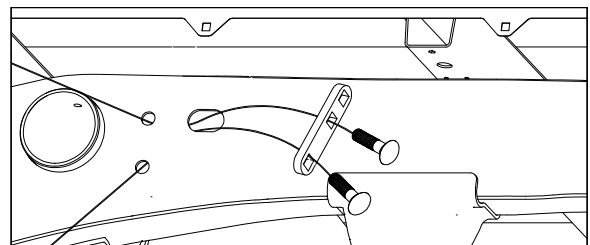
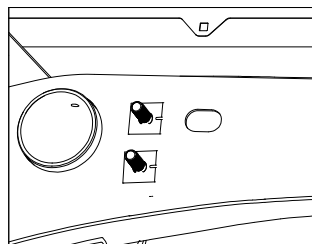

Figure F2: View looking into driver side wheel well.
Figure F3
2. **Fish hardware through the frame.** Attach two 1/2" x 2" carriage bolts to the end of fish wires. Next, pass both fish wires into a locking strap, one wire in the center hole, the other wire in the hole furthest from that hole. Find the 1-1/2" wide slot on the outside of the frame just behind the two installation holes. Insert the straight end of the fish wire which is through the center hole of the locking strap through the large slot on the outside of the frame and out the top installation hole. Insert the other fish wire through the large slot and out the bottom installation hole, see Figure F2. Next, push the locking strap into the frame. Pull the fish wires until the threads of the carriage bolts are through the two holes. Maneuver the bolts until the square shank of the bolts are inside the square hole in the locking strap inside the frame. One at a time, carefully remove the fish wires while holding onto the bolt and install a bolt retainer onto each of the carriage bolts. Tighten until the retainers are snug against the frame, see Figure F3. Repeat these steps on the other side of the truck.